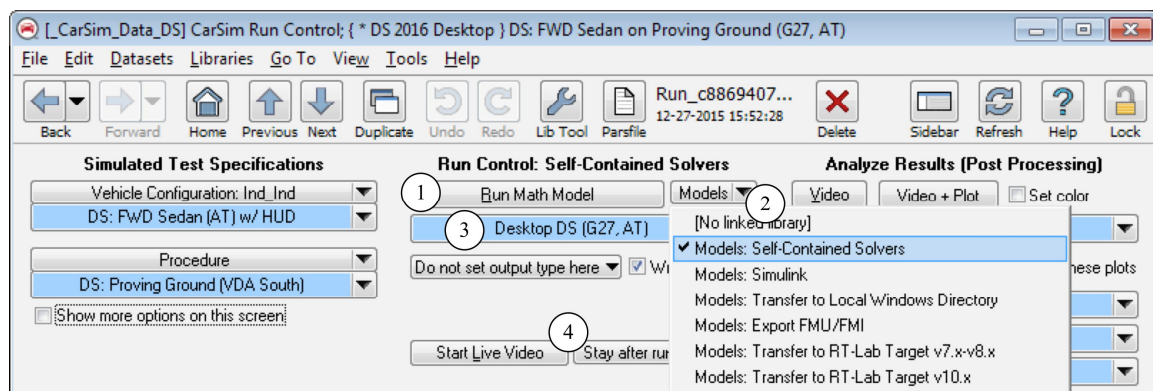

Figure 1. Run Control screen appearance for a dataset using the desktop controller.
The DS database has two kinds of **Run Control** datasets: those that run with a Desktop Controller (with the category “* DS 2016 G27 Desktop”), and those that run with Simulink (with the category “* DS 2016 w/ Simulink Control Inputs”). The choice of real-time controller type is made with the **Models** drop-down control (2) (Figure 1). The two options provided in the desktop DS examples are **Models: Self-Contained Solvers** and **Models: Simulink**.